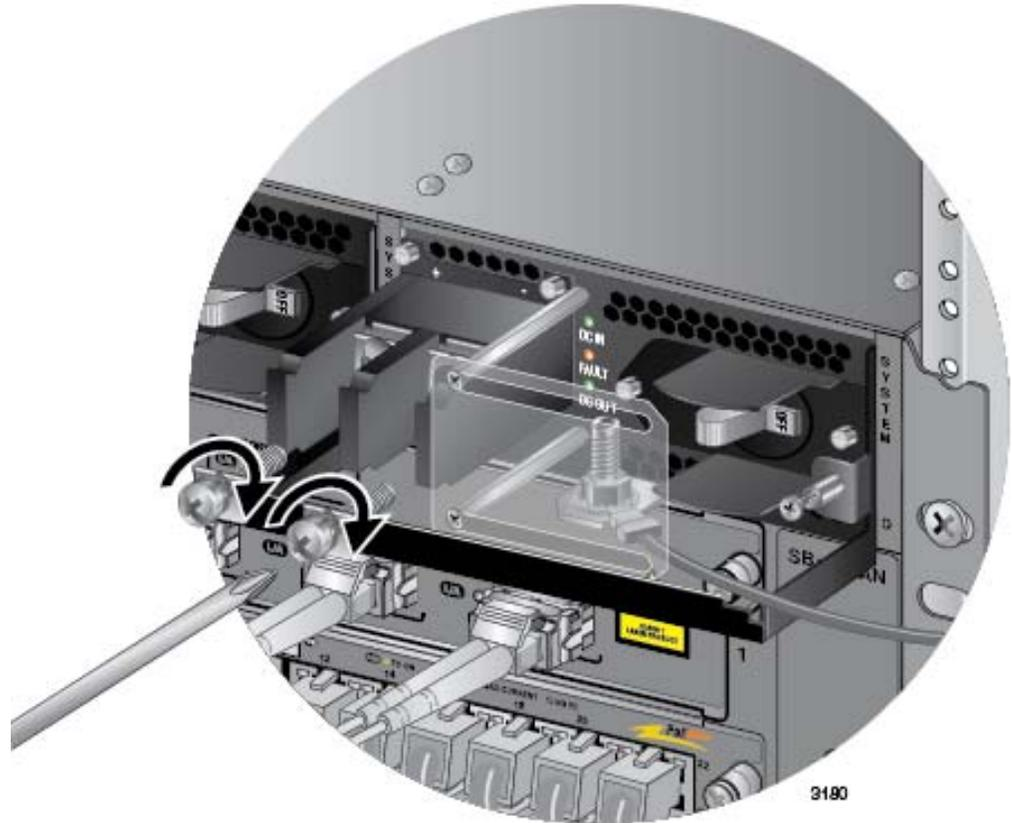

Figure 154. Reinstalling the Screws on the Positive and Negative Terminals
7. Reinstall the two screws on the negative (-) and positive (+) terminals. Refer to Figure 154 on page 243.